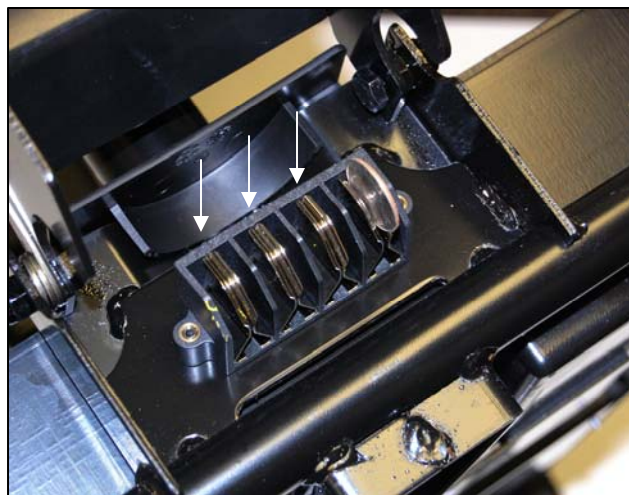

Figure 19. Quarter Test (Connector 8)
10. Take a quarter and slide into each contact on the front intermediate harness connector (8). **See figure 19.** Does each contact hold the quarter firmly in place?
- No? - Replace the front intermediate harness (8).
11. Check the rear intermediate connector (9) and the motor/brake harnesses connected to connector (9).
13. Take a quarter and slide into each contact on the front intermediate harness connector (8). **See figure 19 on page 14.**